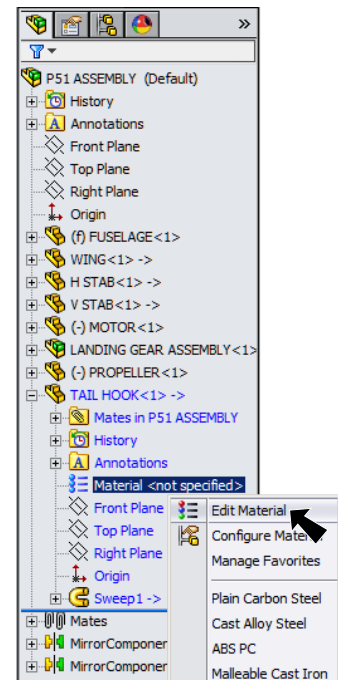

Fig. 22
Step 1. Right click **Material**  in the Feature Manager and click **Edit Material**, Fig. 22.